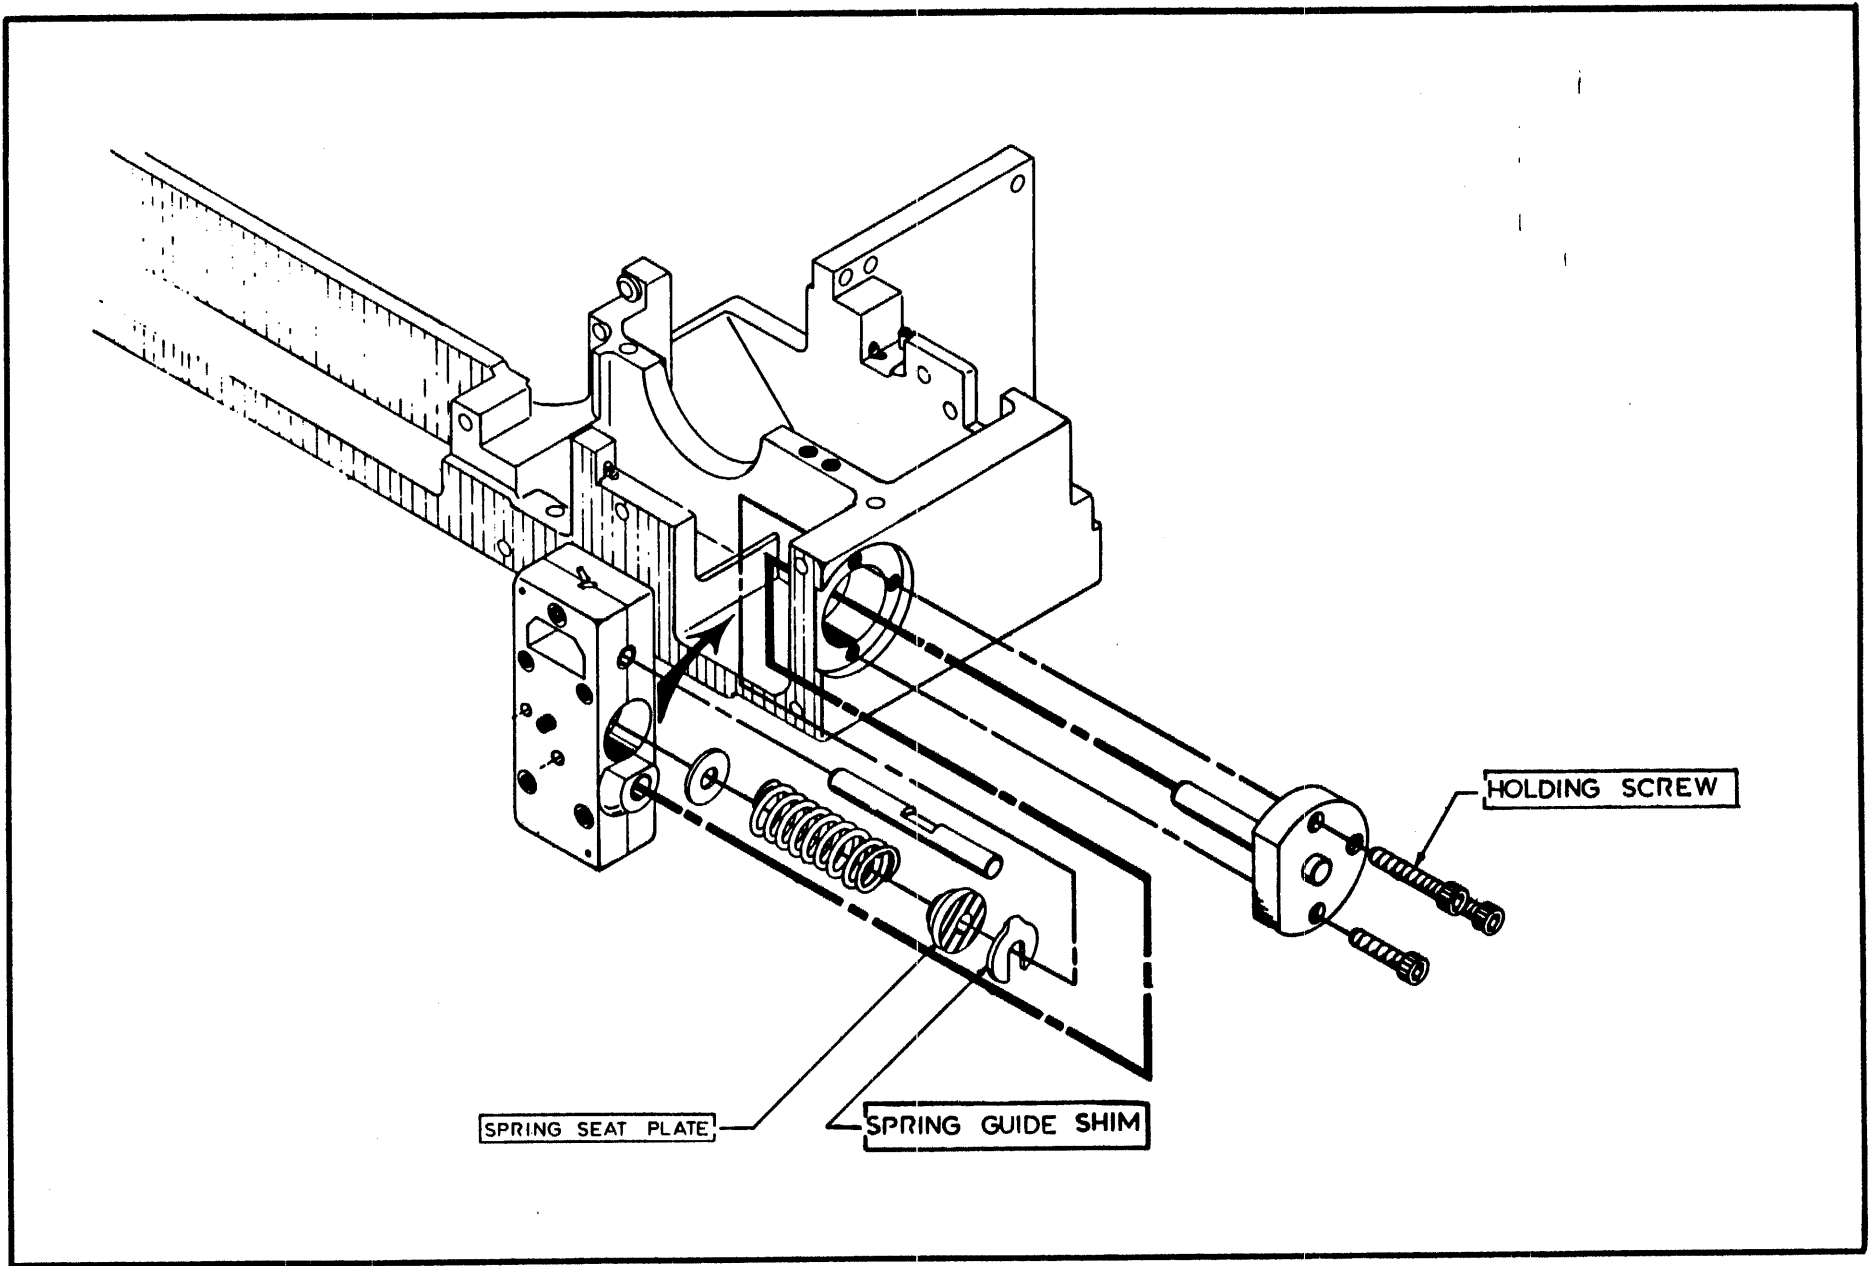

Figure 95 Location of the Counterweight Spring Guide Shim
- g. Insert a 0.01 inch counterweight spring guide shim (P/N 101564-001) between the side of the base casting and the spring seat plate as follows (**Figure 95**):